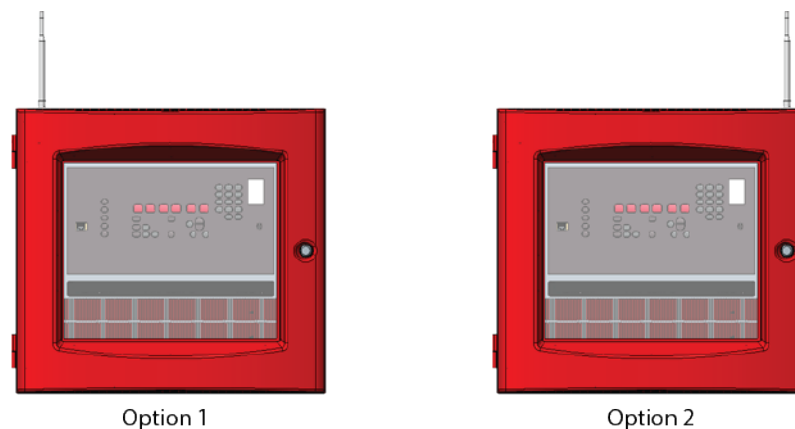

Figure 4: Antenna mounting example
- Always vertically align the primary antenna. You can mount this antenna close to either the top left or right edge of the FACU to conserve space on the unit for conduit entry. See Figure 4.